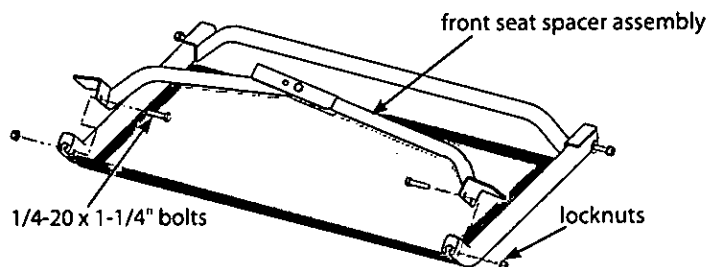
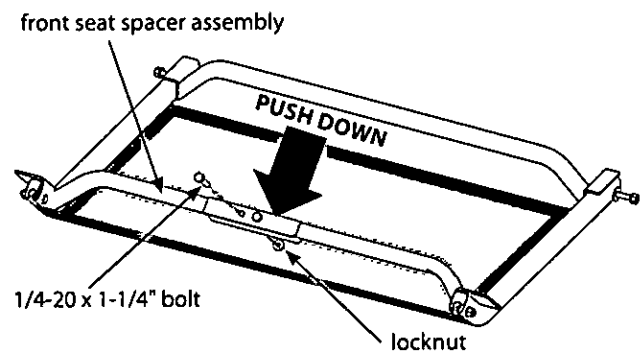

Figure 6b
Figure 6c
c. Spread the front (bent end) of fabric rail mounts apart. Take the front seat spacer assembly (410112) and position angle brackets near holes in fabric rail mounts. **SEE FIGURE 6b.** Push the front seat spacer assembly downward into its widest position to spread seat apart and hold in place. Insert (2) provided 1/4-20 x 1-1/4" bolts through the fabric rail mounts and the angle brackets of front seat spacer assembly; secure with locknuts. While continuing to hold seat spacer in place, re-insert (1) provided 1/4-20 x 1-1/4" bolt through the locking hole of front seat spacer assembly and secure with locknut. **SEE FIGURE 6c.** Be sure that all four angle brackets (two on rear seat spacer and two on front seat spacer) are fully cradling the fabric rail mounts. This locking action is a tight fit by design in order to apply the correct amount of tension on the mesh seat. **You must now securely tighten the (3) 1/4-20 x 1-1/4" bolts and locknuts on the front seat spacer assembly.**